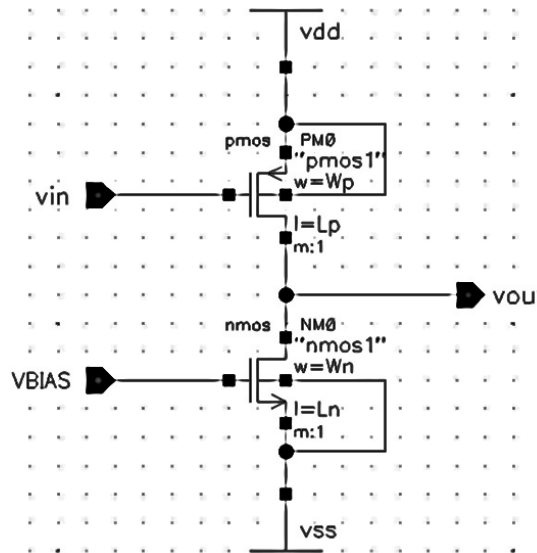

Figure 8.4: CS Amplifier
1. Built the design schematic based on Fig.8.4 and Table.8.1.